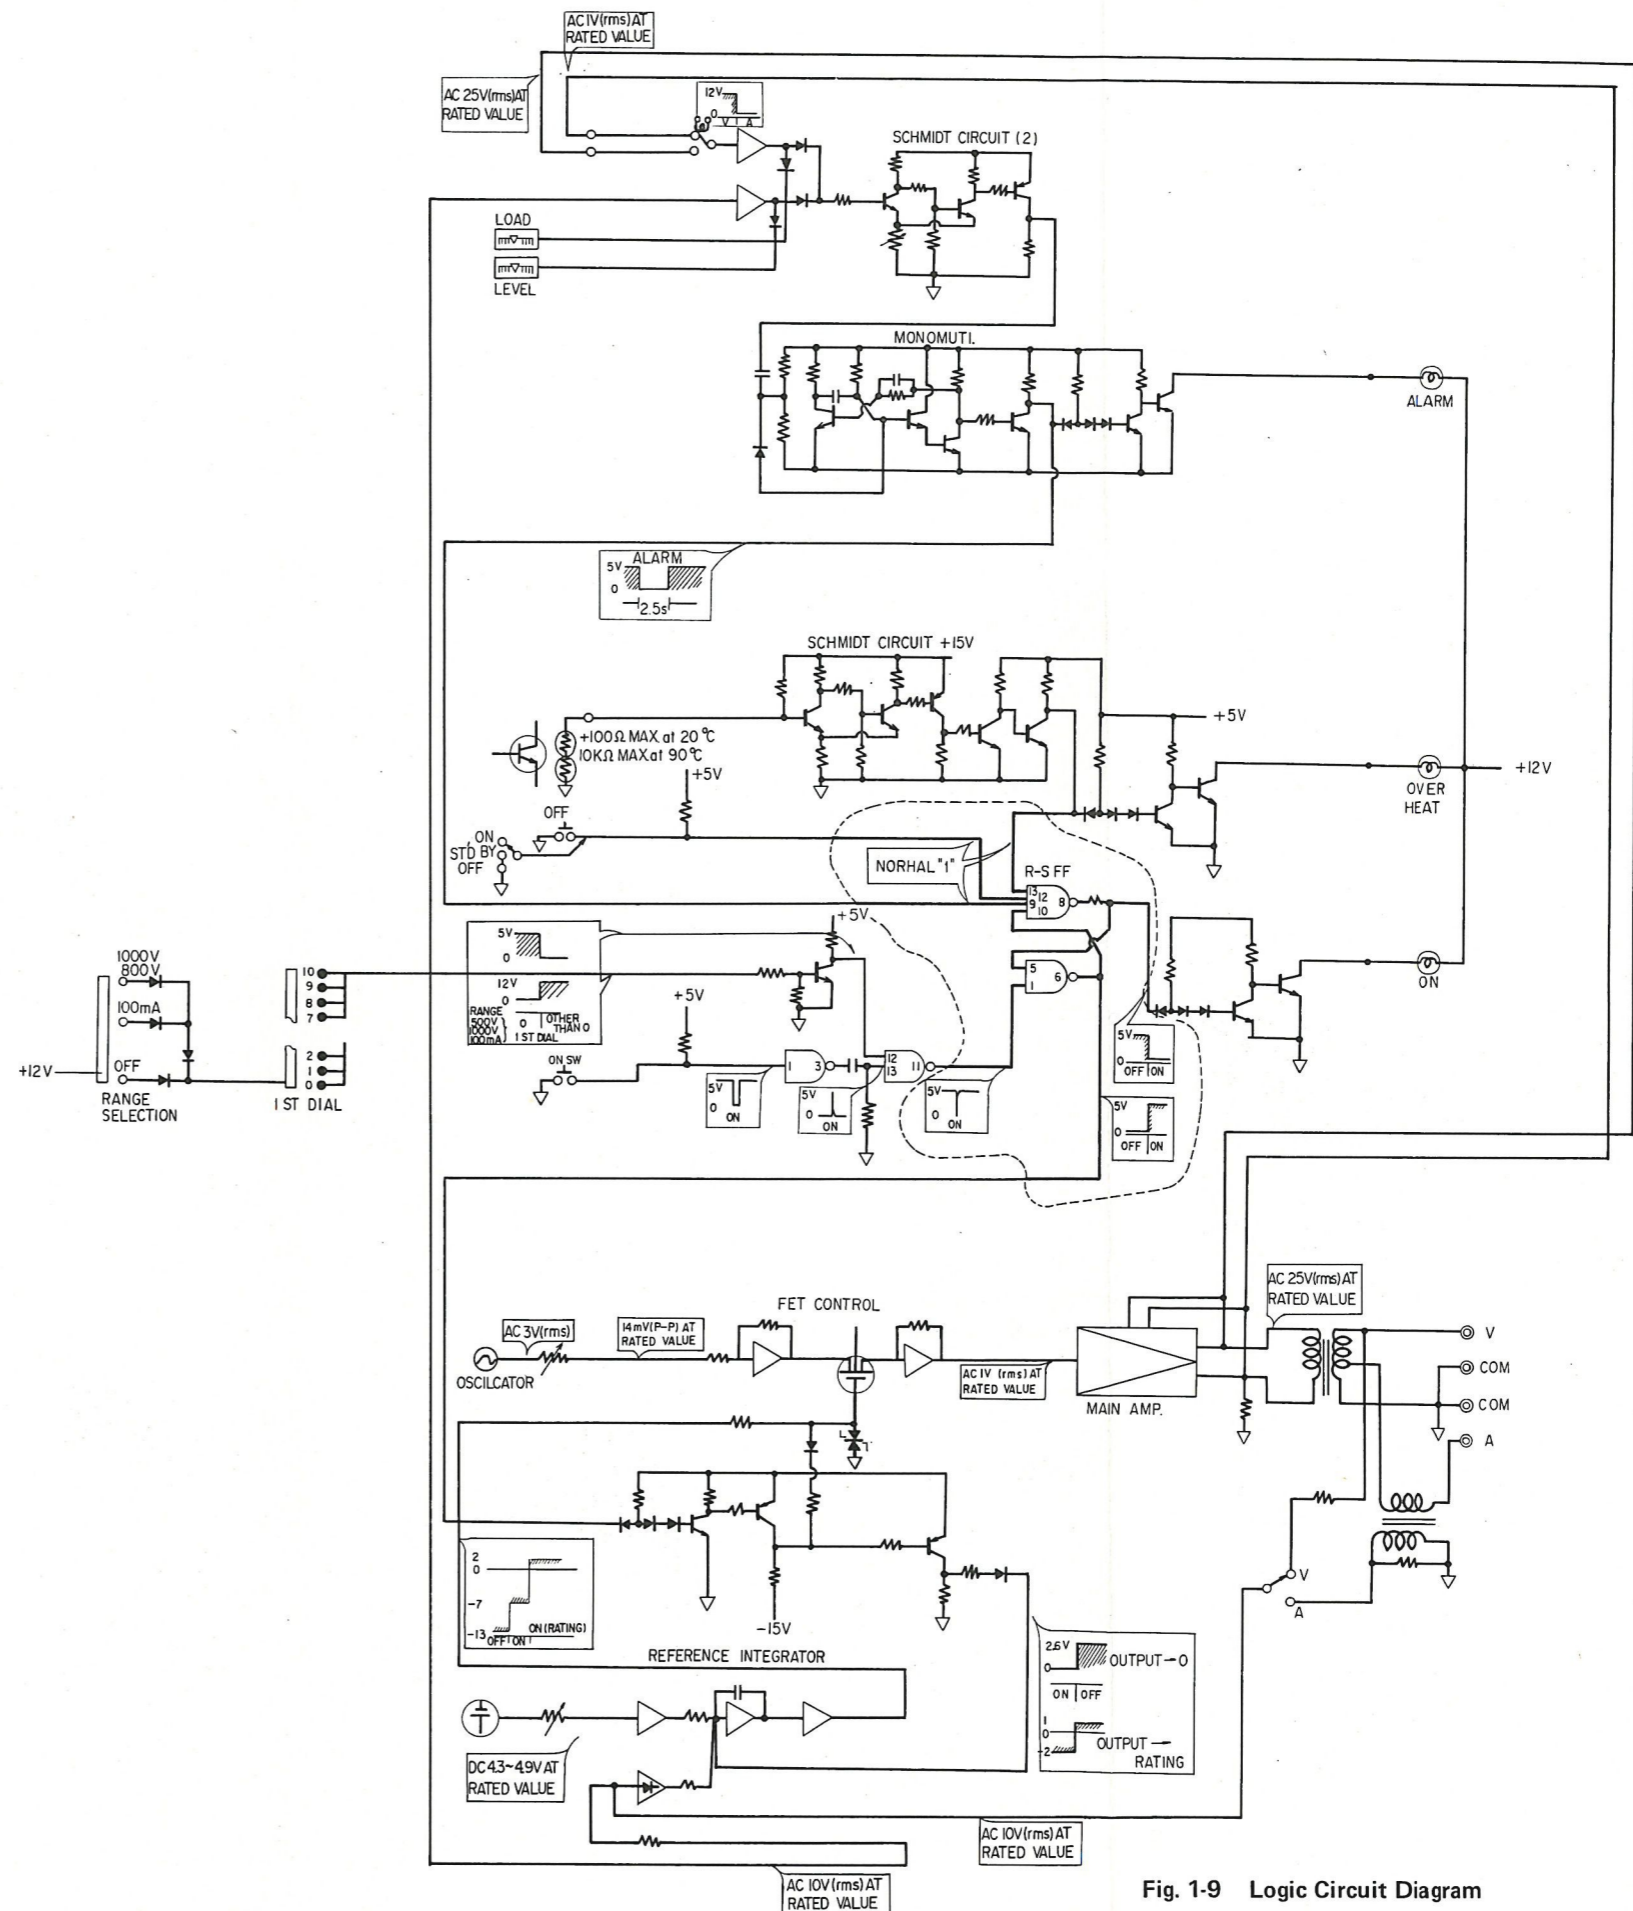

Fig. 1-9 Logic Circuit Diagram
Fig. 1-9 is LOGIC circuit to turn ON or OFF output. It is combined with the circuit to protect the main amplifier and output from overload. When power supply is turned on, the R-S FF is switched to "OFF" by the delayed pulse provided by Schmidt circuit (2). The control signal is applied to the FET input side of main amplifier and output is 0 with the FET cut off. Simultaneously, the voltage to stop operation of the control circuit is also produced.